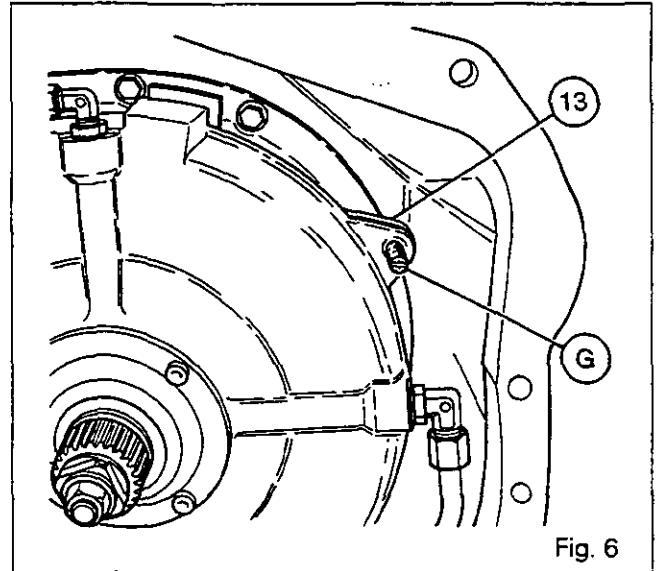

Fig. 6
15. Screw three "G" guide studs on the cover (13) (Fig. 6).